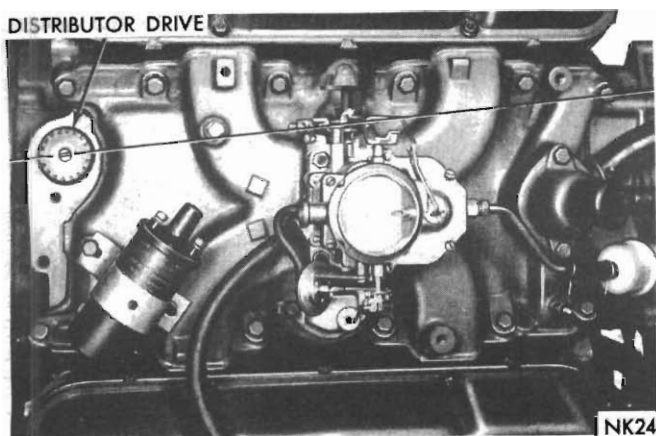

Fig. 19 - Position of distributor drive shaft
(15) Install fuel pump and fuel lines.
(16) Install water pump and housing assembly using new gaskets. Tighten bolts to 30 lbs. ft.
(17) Re-install A/C Condenser (where applicable).
(18) Fill cooling system with demineralized (soft) water, adding Chrysler Parts Corrosion Inhibitor.
(19) With timing indicator on "O" install distributor drive gear with slot pointing to the first intake manifold bolt on left side of engine (Fig. 19).
(1) Rotate crankshaft until No. 1 cylinder is at top dead centre on the firing stroke.
(2) When in this position, the straight line on vibration damper should be under ("O") on the timing indicator.
(3) Coat shaft and drive gear with engine oil. Install the shaft so that after gear spirals into place, it will index with the oil pump shaft, so slot in top of drive gear will point to the first intake manifold bolt on left side of engine as shown in Fig. 19.